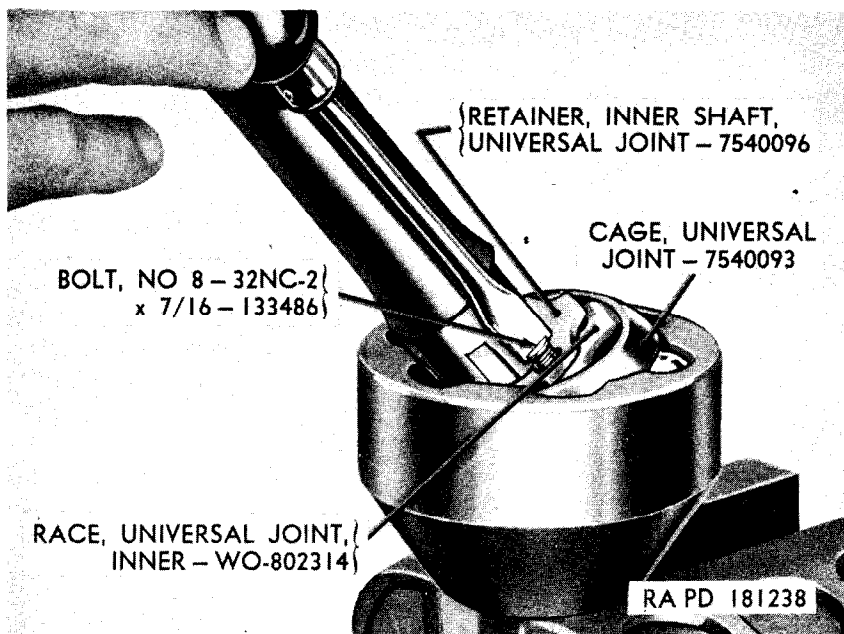

Figure 102. Removing front axle universal joint inner shaft retainer.
- (1) *Remove universal joint inner shaft retainer.* Remove the three bolts (fig. 102) which secure the universal joint inner shaft retainer to the universal joint inner race. Pull the inner axle shaft out of the inner universal joint race. Remove inner shaft snap ring and slide the universal joint inner shaft retainer from axle shaft.
- (2) *Remove universal joint balls.* Push universal joint cage down on one side of outer axle shaft until opposite side of universal joint cage is out of outer axle shaft. Use brass drift and
- (4) *Install inner axle shaft.* Slip the universal joint inner shaft retainer on the inner axle shaft and secure it in place with the inner shaft snap ring. Insert inner axle shaft in inner universal joint race. Secure universal joint inner shaft retainer with three new No. 8-32NC-2 x $\frac{1}{16}$ bolts (fig. 102).